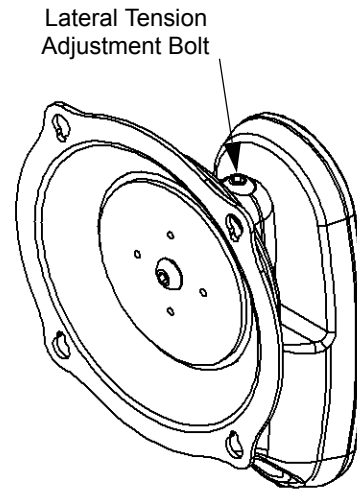

Figure 11: Lateral Tension Adjustment
1. Using a 3/16" hex wrench (150), slightly tighten or loosen lateral tension adjustment bolt . (see figure 11)